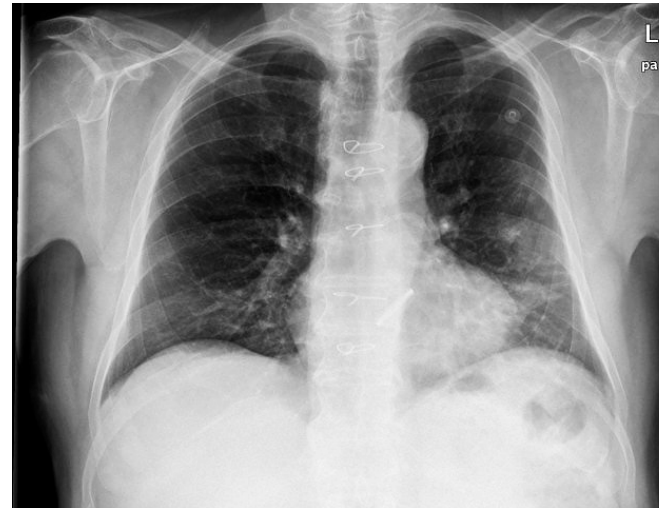

Fig. 28 – Chest X-ray. The same image. Top: high contrast. Bottom: Low contrast
- The contrast of a radiological image quantifies the difference of signal among tissues of different densities (Fig. 28).